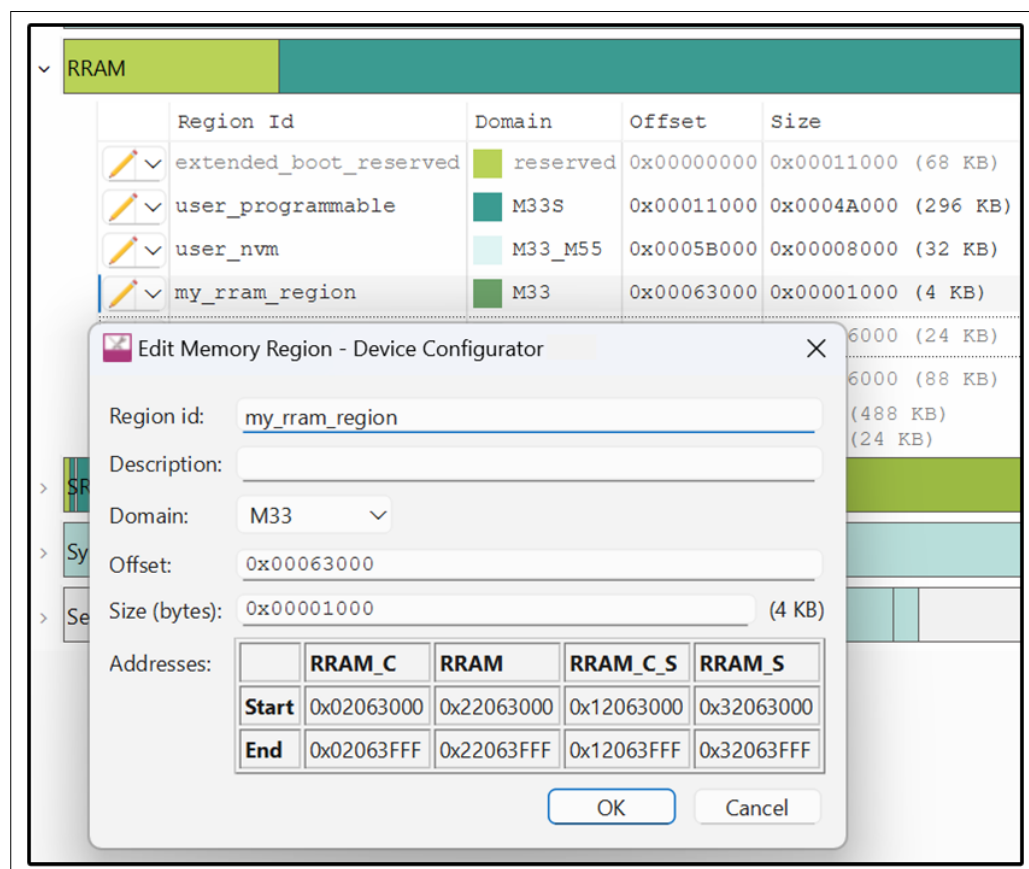

Figure 8 RRAM memory placement
- Open ModusToolbox™ Device Configurator, and select the 'Memory' tab. Under the RRAM memory section, create a new region my_rram_region. Select the Domain as M33 and enter the desired offset and size as illustrated in Figure 8.